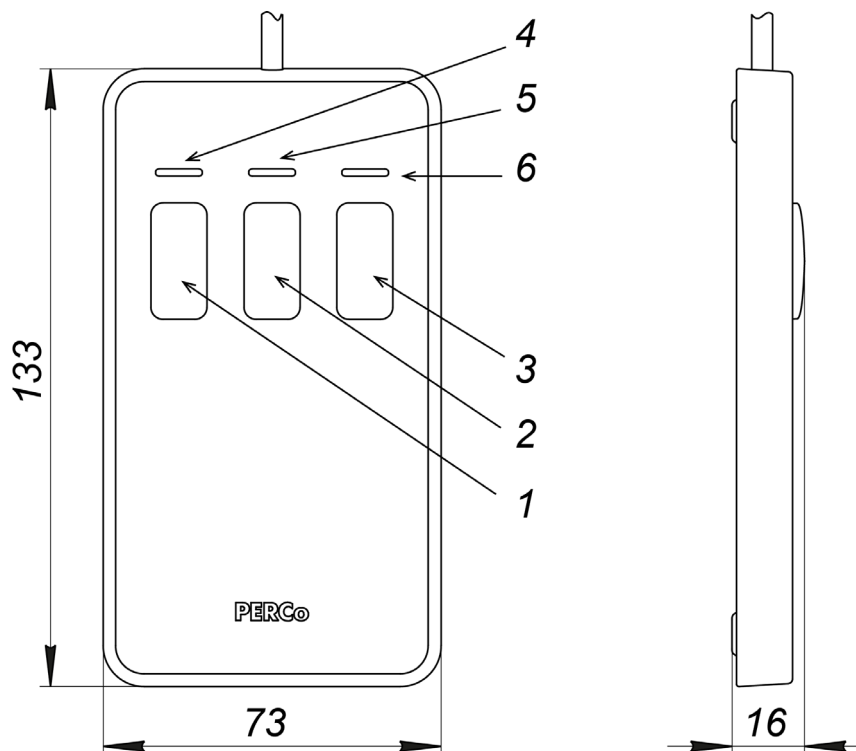

Figure 4. Overall view and dimensions of the RC panel
The RC panel (17) is a small desktop device made of shockproof ABS plastic that serves for manual setting of operation modes and indication thereof. The RC panel is connected to the control board (6) with a flexible multicore cable (14), included into its delivery set. The RC panel's overall view is shown in Fig. 4.